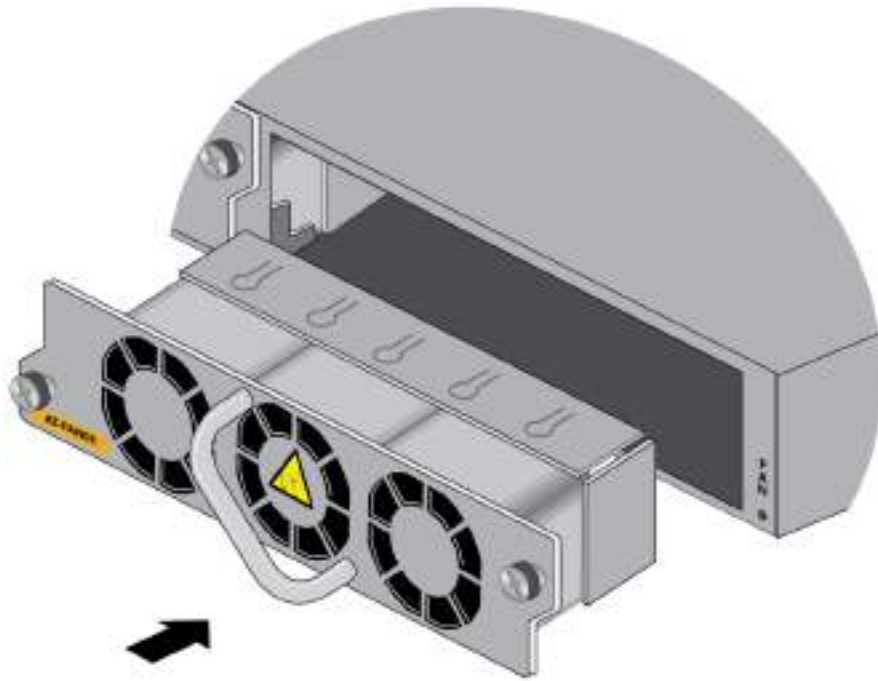

Figure 142. Aligning the FAN05 Module in the Switch Slot
2. Align the fan module in the slot. Refer to Figure 142 on page 198.